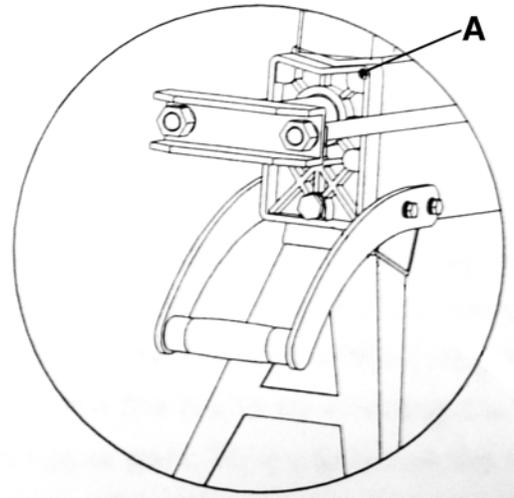

FIGURE 7
Warning! Before operating the log splitter, the bleed screw (A) Fig.7 should be loosened by some rotations until air can go in and out of the oil tank smoothly. Air flow through the bleed screw hole should be detectable while the log splitter is under operation. Before moving the log splitter, make sure the bleed screw is tightened to avoid oil leaking from this point.